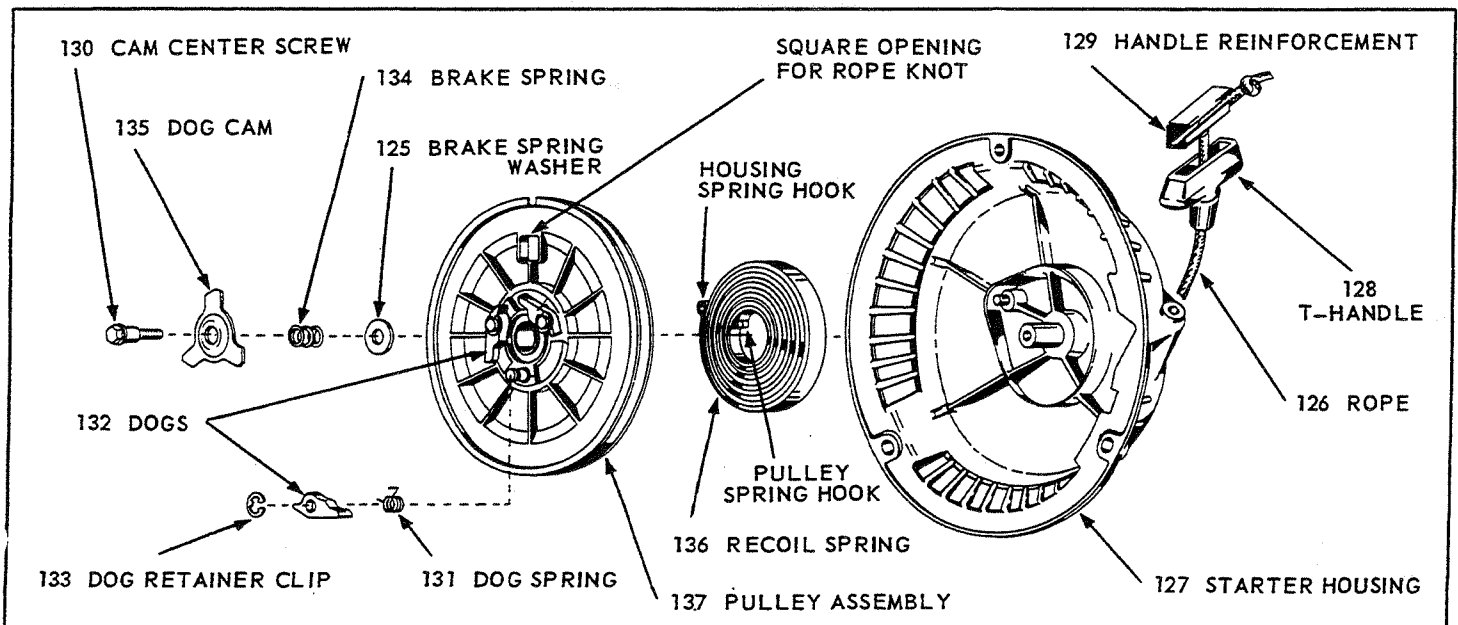

FIG. 3
#### A. REMOVE HANDLE and ROPE, Fig. 3
#### B. REMOVE PULLEY and SPRING, Fig. 3
#### C. REMOVAL of DOGS, Fig. 3
#### D. ROPE REPLACEMENT, Fig. 3, 4, 5
**G. ASSEMBLY of DOG GROUP, Fig. 3**